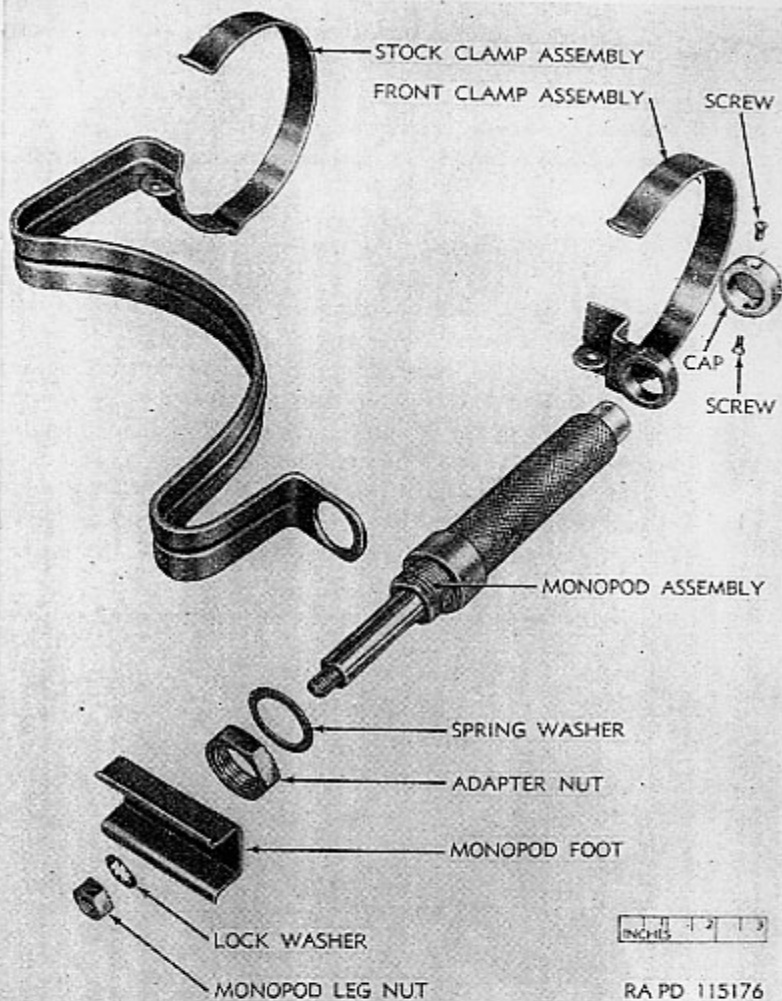

Figure 31. 3.5-inch Rocket Launcher M20—monopod and stock parts exploded.
a. DISASSEMBLY (figs. 31 and 32).
- (1) For the M20 launcher the monopod stock assembly can be separated from the rear barrel by removing the nuts and lock washers from the two screws which fasten the front and rear clamps of the monopod stock to the rear barrel. Withdraw the screws and pry the clamps off the barrel, being careful not to damage the aluminum tube of the contact lead wire. These clamps do not exist on the M20B1 launcher. Remove four screws which fasten the stock to a pad on the rear barrel of the M20B1 launcher.
- (2) For both M20 and M20B1 launchers unscrew the monopod leg nut and remove the lock washer. Slide the monopod foot off the end of the monopod leg.
b. ASSEMBLY (figs. 31 and 32).
- (1) Only the keys, screws, and washers are steel. (On M20 launchers, the bracket of the front clamp assembly is steel.) These steel parts must be examined for rust. Remove rust spots with rifle bore cleaner and crocus cloth.
- (2) Insert the monopod leg in the spiral slot body in such manner that the end of the body having the arc keyway for the Woodruff keys of the adapter and the end of the leg having the screw thread are at the same end of the assembly. Slide the body on the leg until the tapped hole for the leg screw appears directly under the spiral slot. Insert the leg screw through the slot and engage the tapped hole in the leg. Tighten the leg screw.